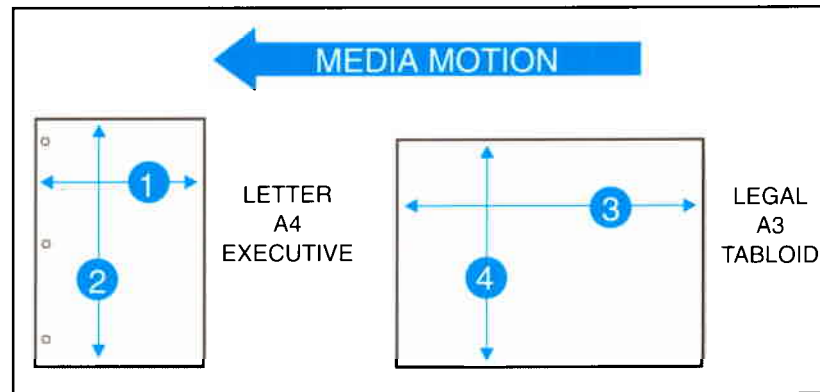

Figure 7-14 Image Orientation and Direction of Travel
In this section, all references to horizontal (Figure 7-14, item 1) and vertical (Figure 7-14, item 2) directions of print quality problems either in text or graphics refer to problems found on letter, A4, or executive-size media.
If you are using legal, A3, or tabloid-size media, the media is fed into the printer in a different direction, so references to the horizontal (Figure 7-14, item 1) will appear in the vertical direction (Figure 7-14, item 3) on legal, A3, and tabloid-size media. Also, references to vertical (Figure 7-14, item 2) will appear in the horizontal direction (Figure 7-14, item 4) on these media sizes.